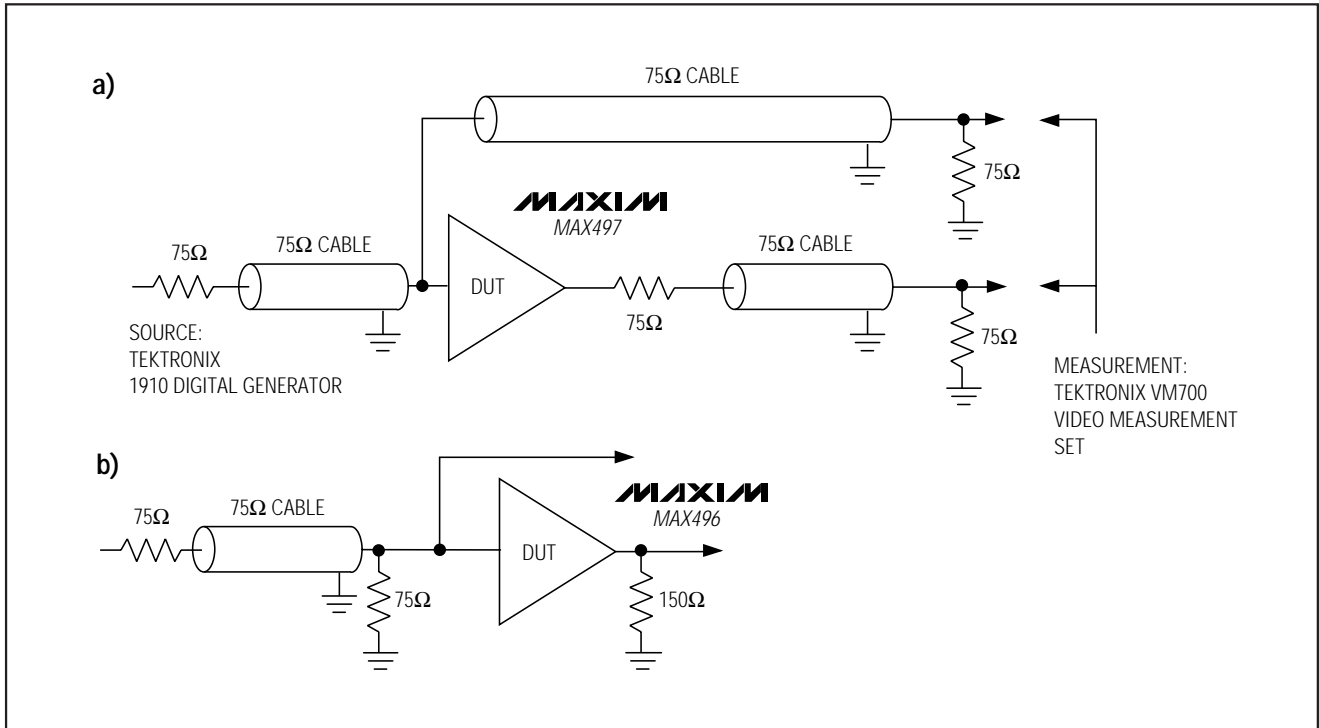

Figure 2. Differential Phase and Gain Error Test Circuits: a) MAX497, Gain of +2 Amplifier; b) MAX496 Unity-Gain Amplifier
**Note 3:** Input test signal is a 3.58MHz sine wave of amplitude 40 IRE superimposed on a linear ramp (0 IRE to 100 IRE).  $R_L = 150\Omega$ , see Figure 2.